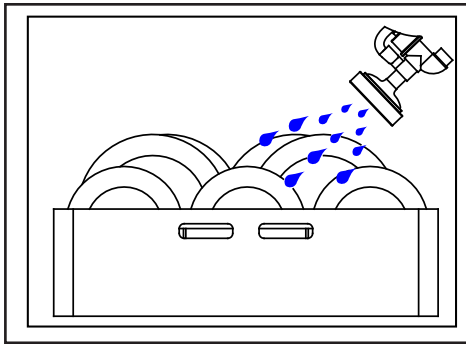

Fig. 3 - Scrap dishes.
- Wares should be scrapped and rinsed to remove large food particles and debris, (Fig. 3).